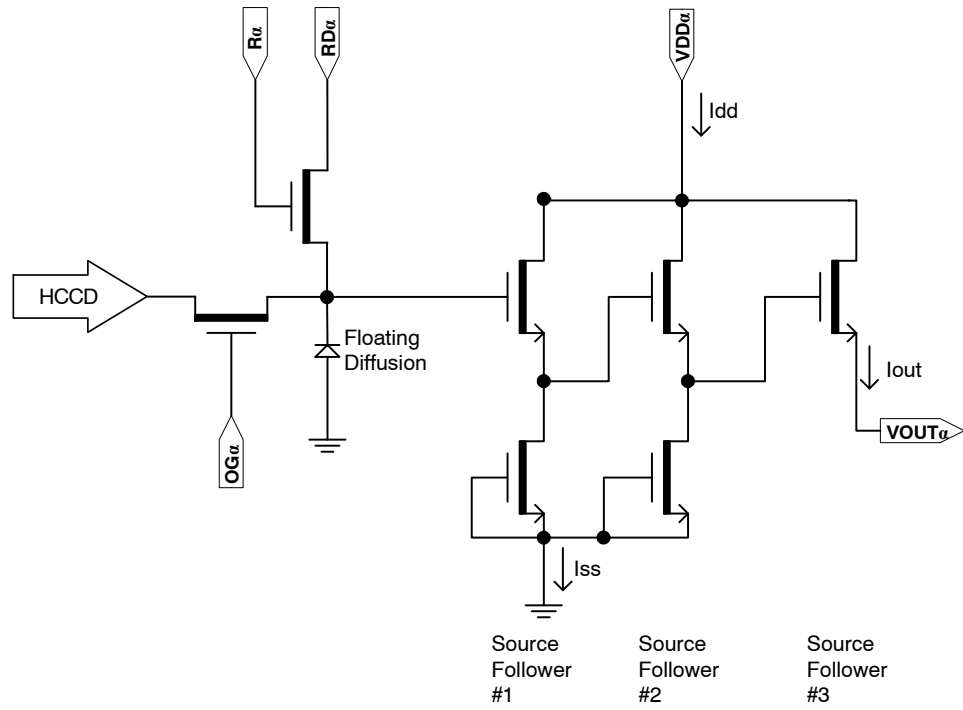

Figure 19. Output Amplifier
2. The maximum DC current is for one output. I_{dd} = I_{out} + I_{ss}. See Figure 19.